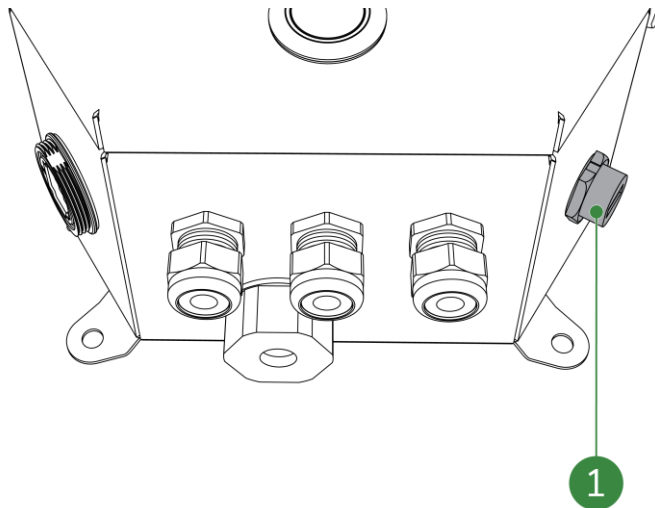

Figure 6-2: HMI USB-port
- a HMI USB-port (Figure 6-2, pos. 1) is located on the bottom side of the HMI;